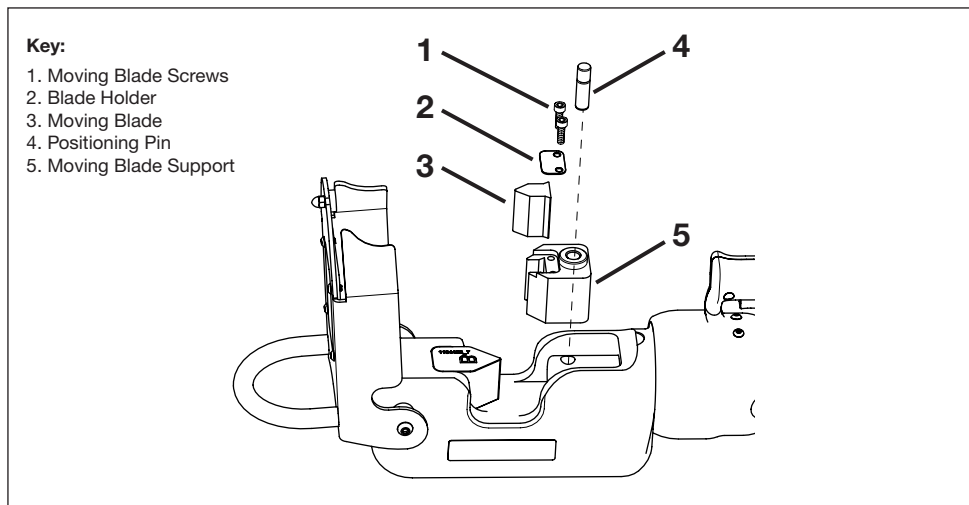

Figure 16, Moving Blade Replacement
Replace the moving blade as described in the following steps. Refer to Figure 16, items 1 through 5.